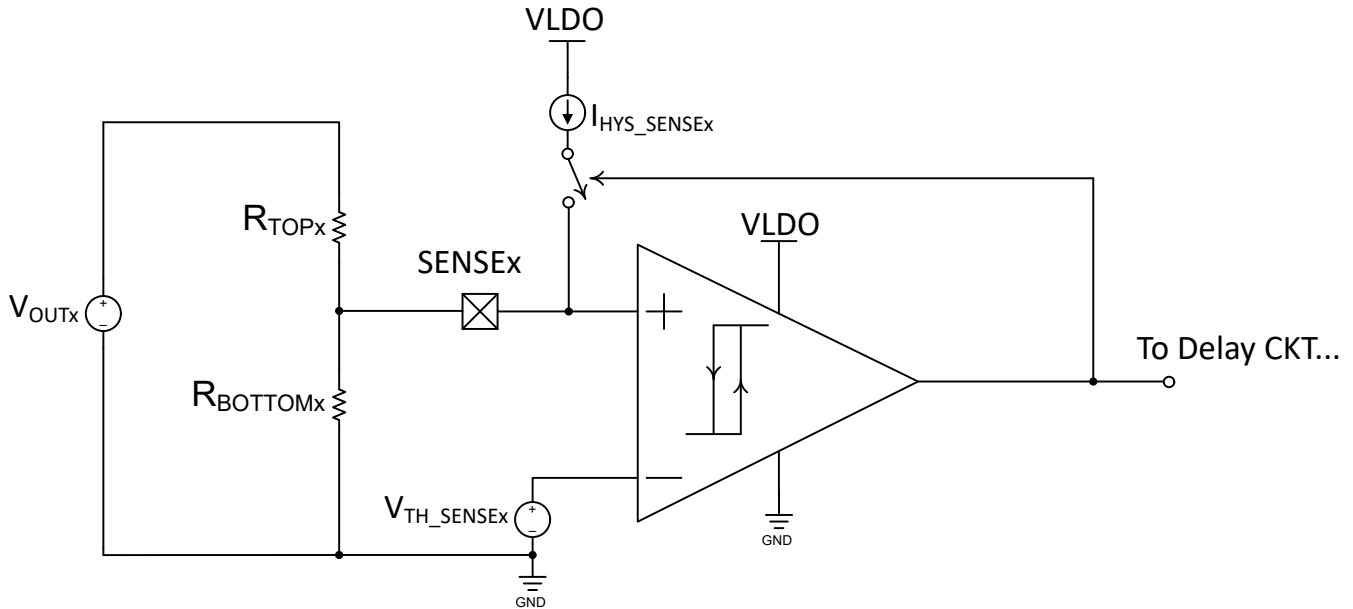

Figure 8-2. SENSE_x Comparators Inputs
The TPS7H3014 sequencer integrates four under-voltage (UV) comparators, with an accurate ($\pm 1\%$) threshold voltage (V_{TH_SENSE_x}) of 599mV nominal. V_{TH_SENSE_x} is measured at the EN_x outputs to account for comparator offsets in the threshold. Maximum flexibility is provided as external resistive dividers can be adjusted to sense any voltage rail (V_{OUT_x}). Figure 8-2 shows a conceptual diagram of the comparators connected to the SENSE_x inputs. As can be observed, the sensed voltage rail (V_{OUT_x}) is attenuated (using an external resistive divider, R_{TOP_x} and R_{BOTTOM_x}) and compared against the V_{TH_SENSE_x} voltage. It is recommended to maintain the steady-state SENSE_x voltage below 1.6V, in order to maintain the threshold (V_{TH_SENSE_x}) accuracy.
This current is mirrored internally across all SENSEx inputs. This hysteresis current becomes active when the SENSEx voltage is greater than the threshold voltage (599mV $\pm 1\%$), same as $V_{OUTx} > V_{ONx}$ (Refer to Equation 3 and Figure 8-2). This current (I_{HYS}) multiplied by the R_{TOPx} resistance induces a voltage (V_{HYSx}) that is added to the SENSEx node, effectively boosting (incrementing) the node voltage. During sequence down, or an undervoltage event when the V_{OUTx} is decrementing, it will need to drop below the V_{OFF} voltage in order to be considered as an out of regulation (or fault). The hysteresis voltage is defined as: